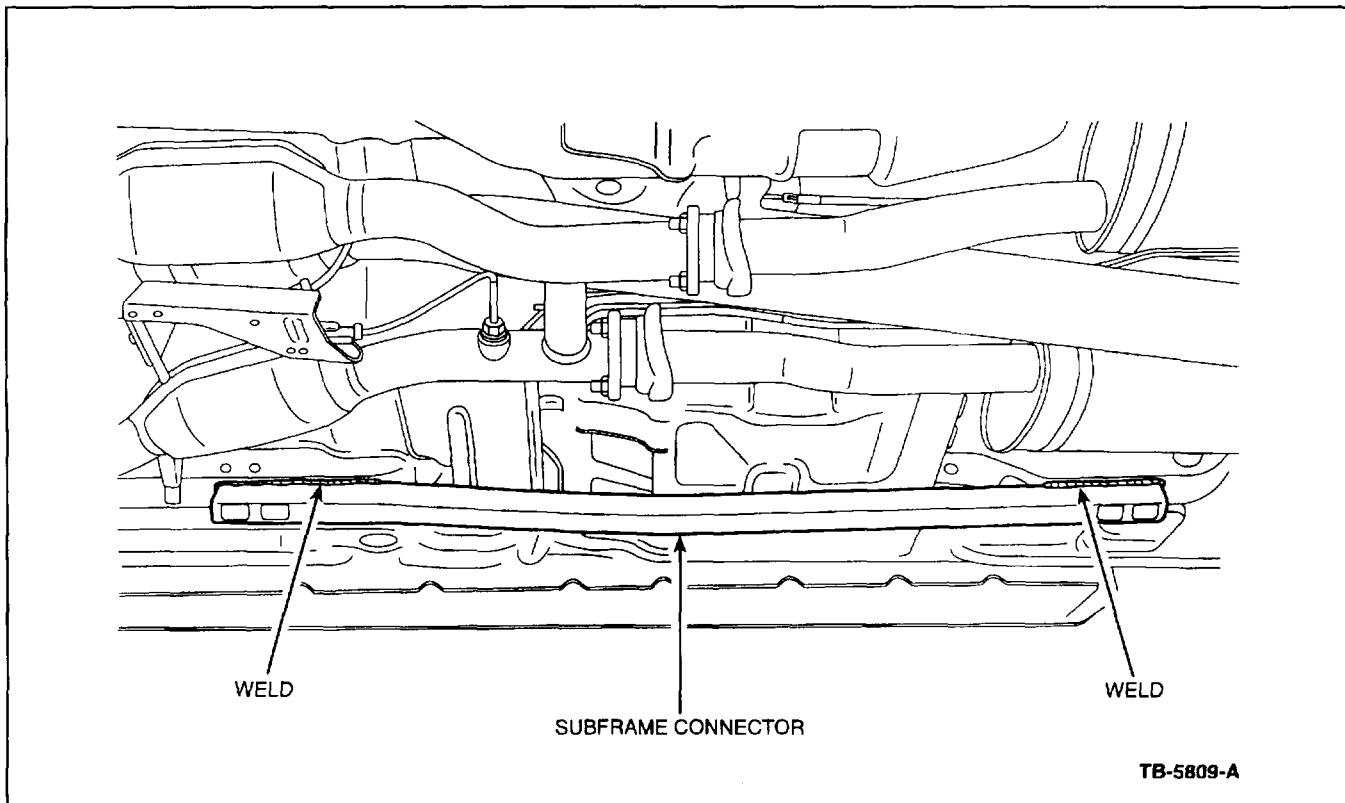

Figure 2 - Article 00-4-2
- The welds should have a minimum 5mm (0.25") weld bead and a minimum total length of 75mm (3") on both sides of the rail (Figure 2).